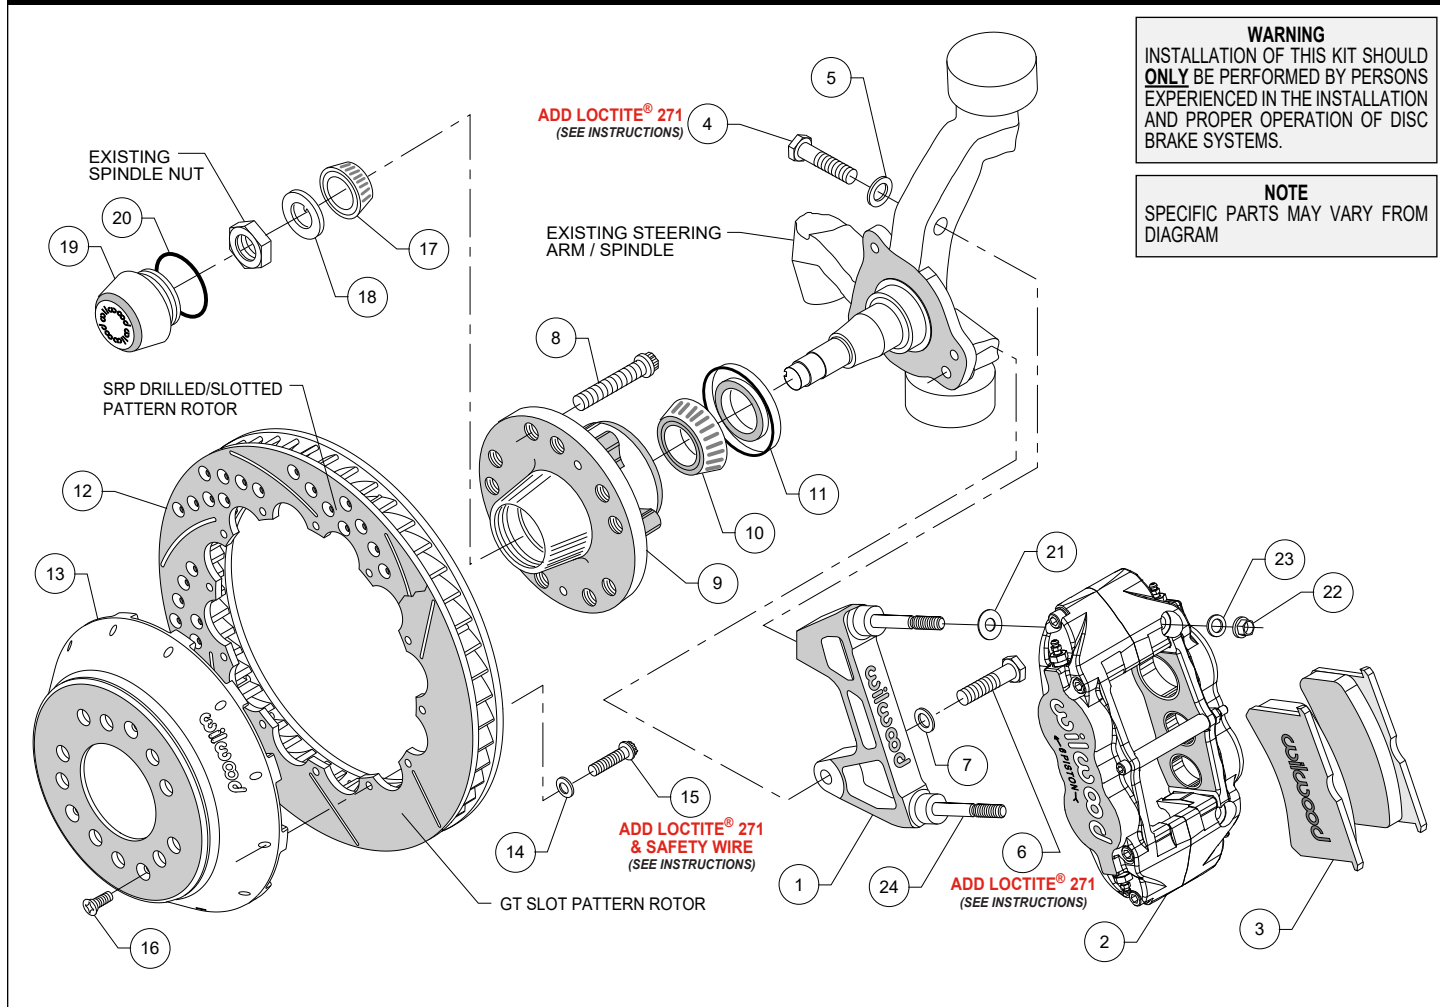

Figure 1. Typical Installation Configuration
NOTE: Numbers in parenthesis refer to the parts list and Figure 1 on the preceding pages.
- Slide the rotor/hat assembly over the studs (8) in the hub (9) taking care to align the small countersunk holes in the hat (13) with the small threaded holes in the hub (9). Install three flat head socket head screws (16) through the small holes in the hat (13) and torque to 85 **in-lb**. Check to be sure the hat seats squarely against the spindle.
- NOTE:** *This kit contains distinct right and left hand calipers that must be mounted in a specific direction, as described below.* Initially place one .035" thick shim (21) on each stud as shown in Figure 1. Mount the caliper (2) onto the bracket (1) using lock nuts (22) and washers (23), Figure 1. Ensure that the caliper is mounted so that the largest pistons are at the rotor exit end of the caliper, in relation to the direction of rotor rotation.
- Remove the caliper center bridge pad retainer bolt, nut, and tube from the caliper. Slide the brake pads (3) into place. They should install easily without interference. Check that the outside radius of the brake pad is aligned with the outside diameter radius of the rotor face. Add or subtract shims (21) between the caliper and mount bracket to gain the proper alignment. Lubricate caliper mounting studs and nuts with lightweight oil, reinstall the caliper and torque the caliper nuts (22) to 30 ft-lb. Reinstall the center bridge pad retainer tube, bolt, and locknut. The locknut should be snug without play in the bolt or tube. Be cautious not to over tighten.